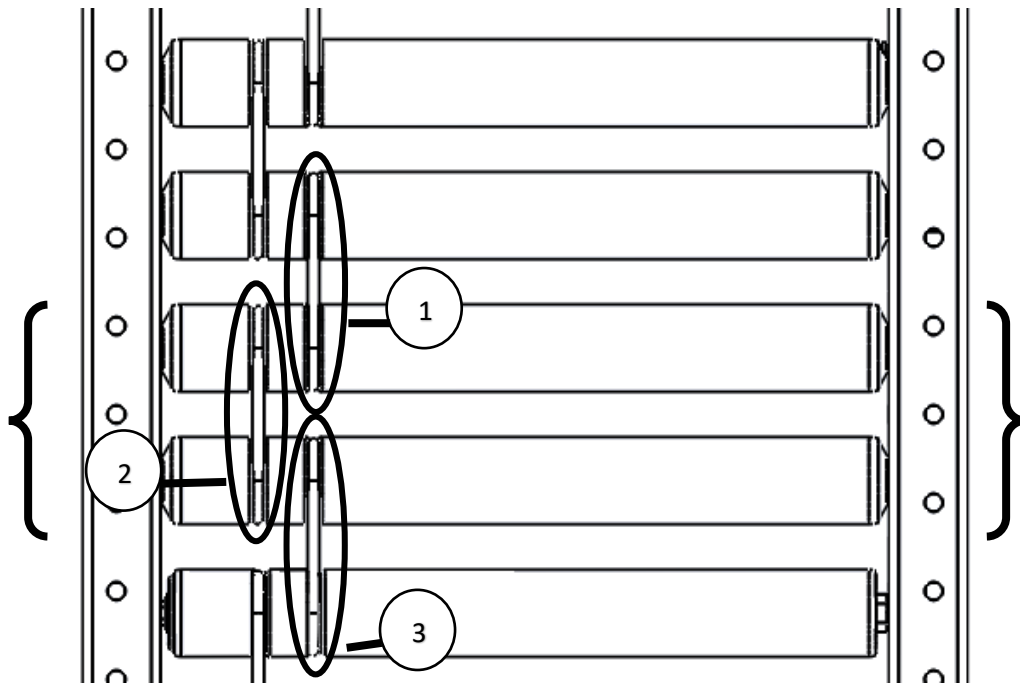

Figure 16: Band Replacement
3. If the band being replaced is on the outside groove/hub of the roller as shown in circle 2 of Figure 16, the two rollers within the brackets will need to be removed. Follow the roller removal steps in the roller replacement procedure.
4. After the rollers have been removed, slide one of the rollers that was removed through the band in circle 1 of Figure 16.
5. After the roller is within circle 1, slide the new band onto the same roller on the groove side of the roller. (Left side in Figure 16)
7. Once the groove side hex shaft (Left side in Figure 16) is within the hex hole, insert the opposite side hex shaft into the appropriate hex hole. Use the roller's length as leverage to aid in this step. As called out in the roller replacement procedure, use a putty knife or other flat surface tool to protect the paint on the sideframe.
9. Slide the roller through the old band in circle 3 of Figure 16. Then slide the roller through the new band. (This step can be difficult as the bands are tight.)
11. Once the groove side hex shaft (Left side in Figure 16) is within the hex hole, insert the opposite side hex shaft into the appropriate hex hole. Use the roller's length as leverage to aid in this step. As called out in the roller replacement procedure, use a putty knife or other flat surface tool to protect the paint on the sideframe.
12. If the band being replaced is on the inside groove/hub of the roller as shown in the blue circle of Figure 16, then remove the hex shafts opposite the groove/hub.